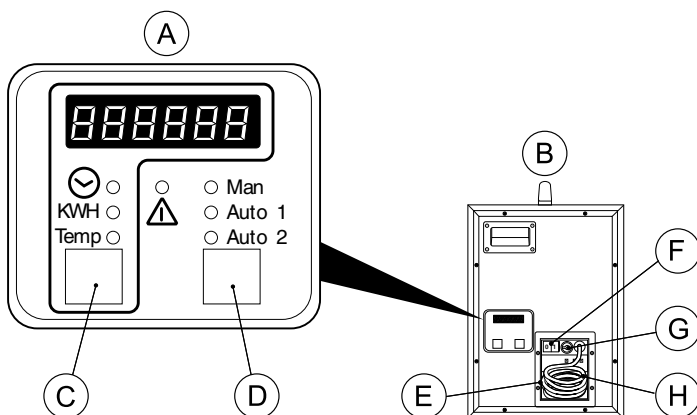

Figure 5.1 Control panel, on-off switch and humidistat socket
The dehumidifier has three operating modes, see *Figure 5.1*.
2. Switch the on-off switch to position I, see Figure 5.1.
3. Switch the on-off switch to position I, see *Figure 5.1*.
4. Select the **Auto 1** or **2** operating mode by pressing the operating mode selector button, see *Figure 5.1*.
Switch the on-off switch to position **0**, see *Figure 5.1*.